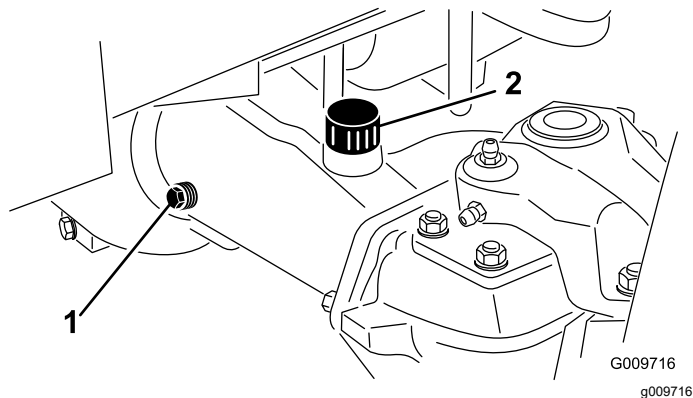

Figure 86
2. Remove a check plug from 1 end of the axle housing (Figure 86).